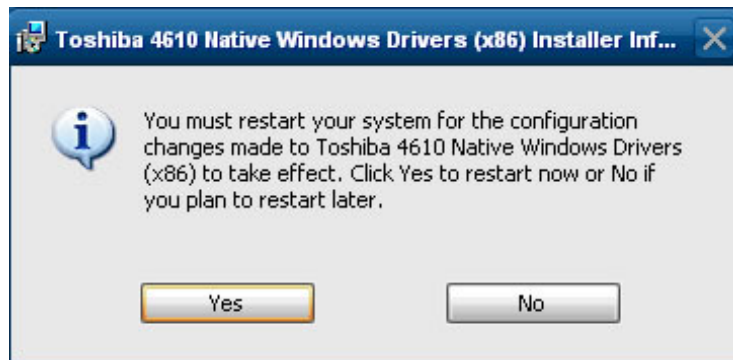

Figure 26. Restart window
13. If the Toshiba 4610 SureMark Printer Native Windows Driver Restart window (Figure 26) opens, click **Yes** to allow the InstallShield Wizard to restart your computer.